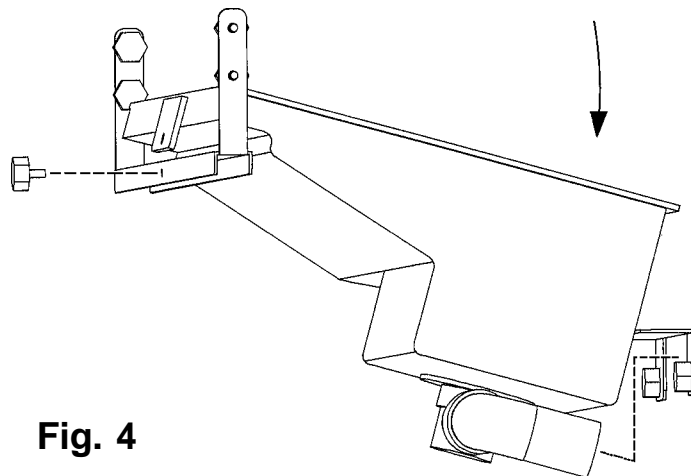

Fig. 4
- 17) Remove one end of the Tank Drain Hose and remove the Thumbscrew at the front of the Water Tank. Remove the Water Tank by pulling it toward you slightly and lowering it. See Fig. 4.